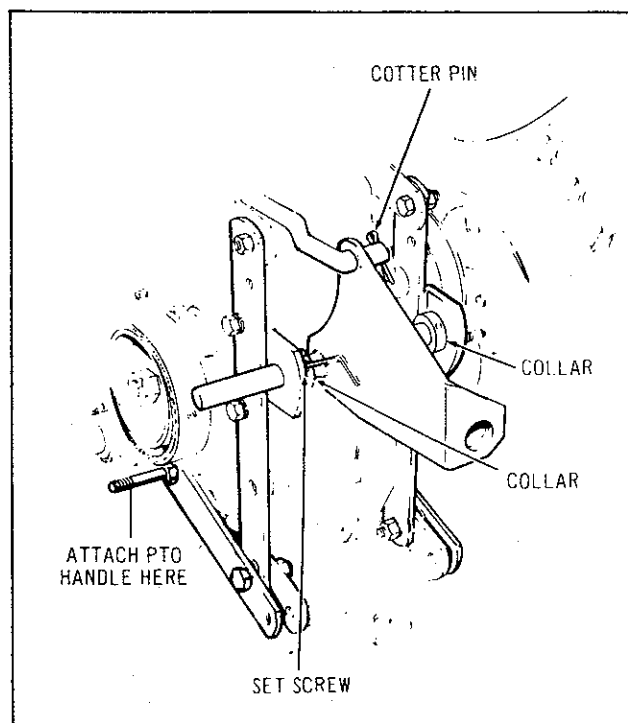

FIG. 3
3. Insert right end of Lift Assembly into hole in right hitch member and position Lift Assembly so that Collar is flush against Right Hitch Member. Position Collar on left side of Lift Assembly so it is flush against left hitch member; tighten Socket Hd. Set Screw with Allen Wrench. See Figure 3.
4. Connect Lift Assembly to Rear Lift Group. Secure with Cotter Pin. See Figure 3.